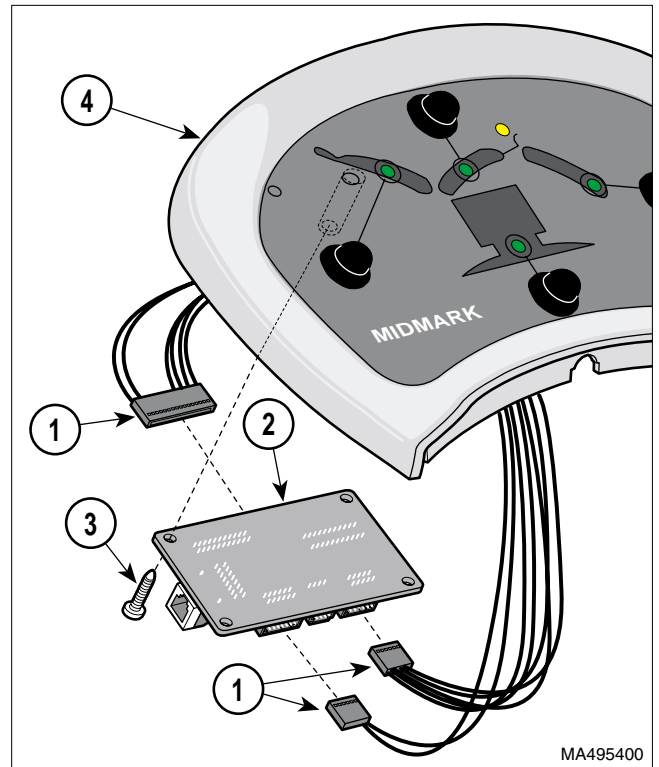

Figure 4-34. Foot Control PC Board Removal / Installation
- (1) Remove foot control top. (Refer to para 4.21 or 4.22).
- (2) Disconnect three wire harnesses (1, Figure 4-34) from PC board (2).